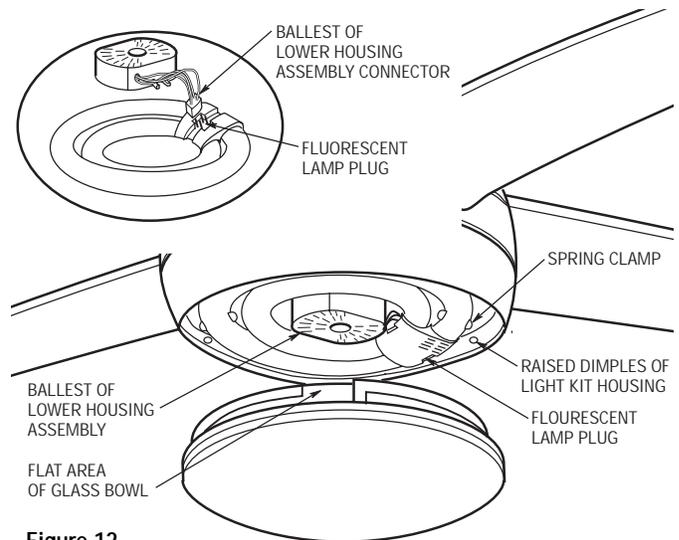

Figure 12
1. Engage the connector of the ballast, in the lower housing assembly, onto the fluorescent lamp plug (Figure 12).
3. Place the glass bowl into the opening in the lower housing assembly, aligning the three flat areas on the top edge of the glass with the three raised dimples on the lower housing assembly and turn the glass bowl clockwise until it stops (Figure 12).